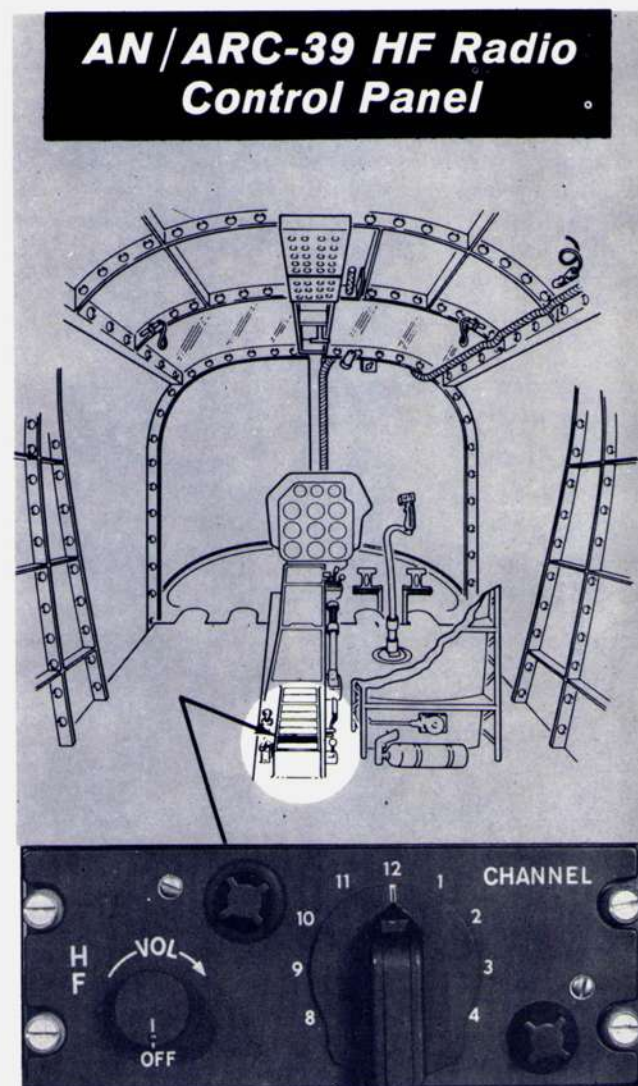

Figure 4-16
**Description.** Provision is made for installing this equipment, which will transmit and receive amplitude-modulated voice signals on any of 12 preset channels within the frequency range of 2.0 to 9.1 megacycles. Channels 1 through 6 are allocated to a low band (2.0 to 4.27 megacycles) and channels 7 through 12 are allocated to a high band (4.27 to 9.1 megacycles). Any frequency within a given band may be assigned to any channel allocated to that band. If installed, the receiver-transmitter is located beneath the copilot's seat, and is equipped with the necessary controls to change the preset channels. Electrical power to operate the equipment is supplied from the secondary d-c bus and the ARC-39 circuit breaker (see figure 1-23). The equipment is controlled by the HF control panel (figure 4-16), located on the console.